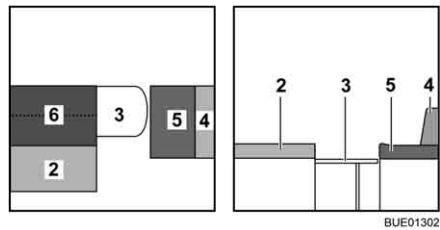

Fig. 125 During conversion
- Unfold the additional cushion (Fig. 125,6) and lay it on the table.